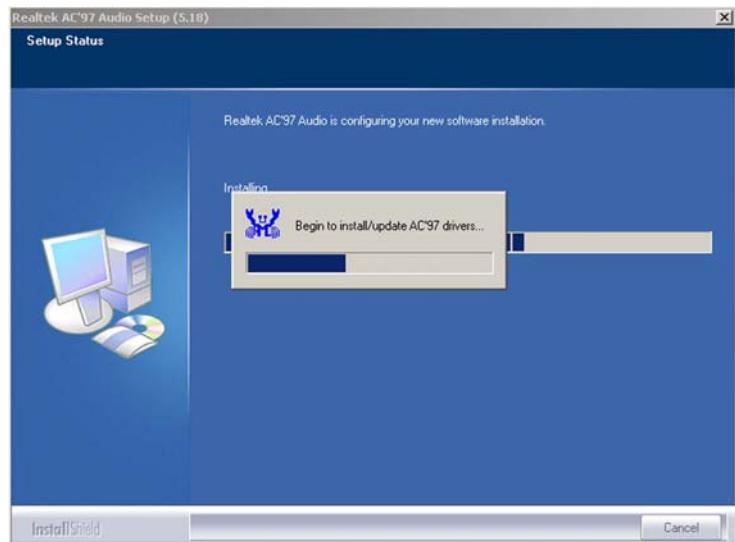

Figure 7-33: AC`97 Audio Driver Installation Begins
Step 8: After clicking the “YES” button in **Figure 7-32**, the installation of the driver begins (**Figure 7-33**).